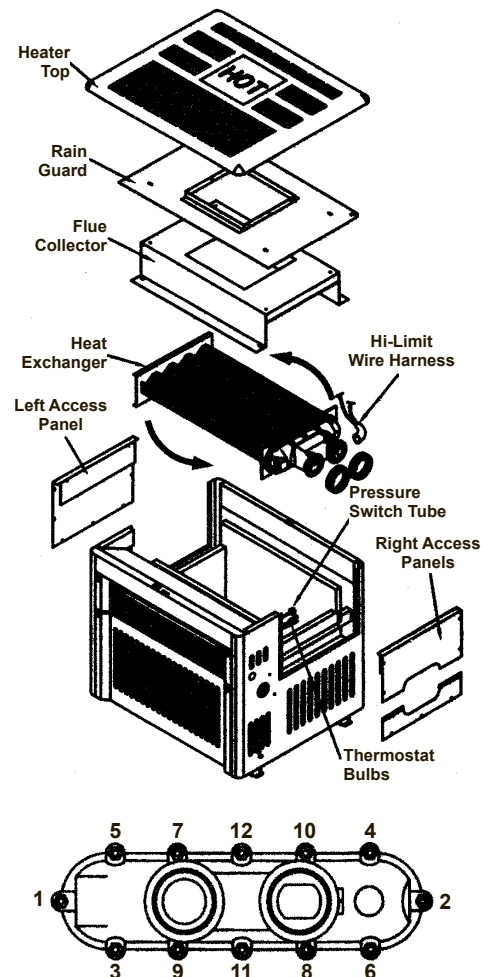

Figure 8
The H-Series heater is designed so that it can be installed with the water connections located on either the left or right side of the heater. Heaters are shipped from the factory with the water connections on the right side. To bring the water connections to the left side, follow the step-by-step instructions below and refer to the illustration in Figure 8. A trained service technician should perform these procedures before the heater is installed.
14. Torque nuts from 5 to 7 ft.-lbs. in the sequence shown in Figure 8. Install drain previously removed into the bottom header, and install brass plug into the top. Use new sealant on the threads of these parts before reinstalling. Do over tighten.